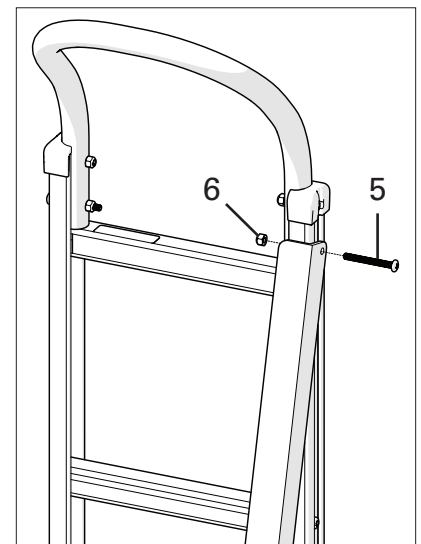

Figure 3
- Remove the lower handle mounting screw. Push skid runner towards the hand truck frame until upper mounting hole is opposite the frame/handle lower screw hole. Insert one 1/4"-20" pan head screw through side of the skid runner, frame side channel and handle. Secure with one 1/4"-20 locknut (Figure 3).